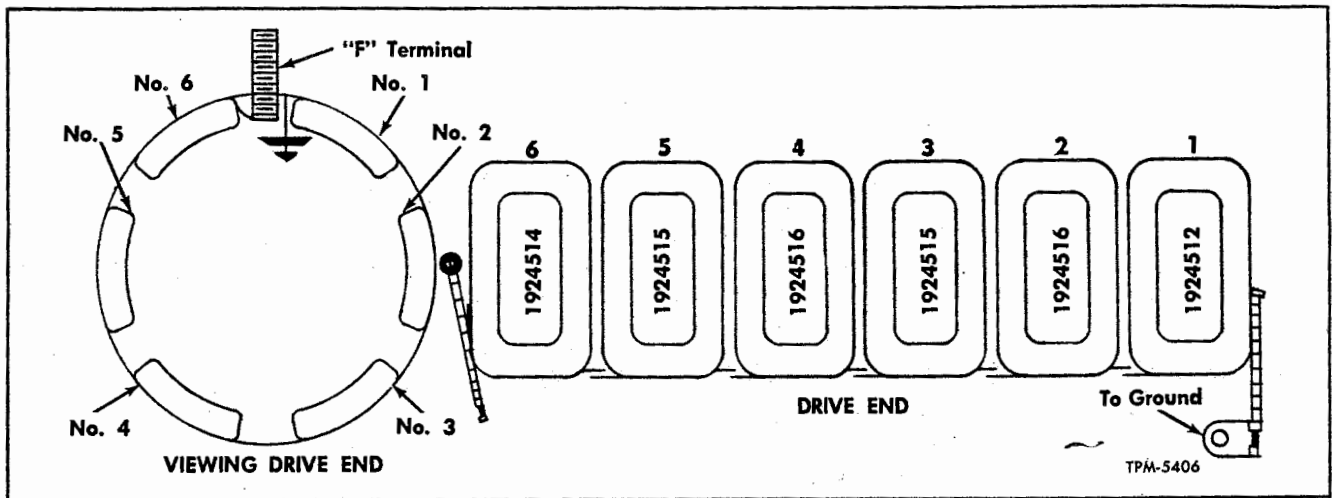

Figure 23—Field Coil Locations
5. If field coil insulation is cracked, charred, or worn so that windings are exposed, coils should be reinsulated or replaced. When replacing field coils, refer to figure 23 for correct location of coils. Part numbers shown are stamped on the coils. Connect and reinsulate any field coil connections which have been broken or bared during tests.